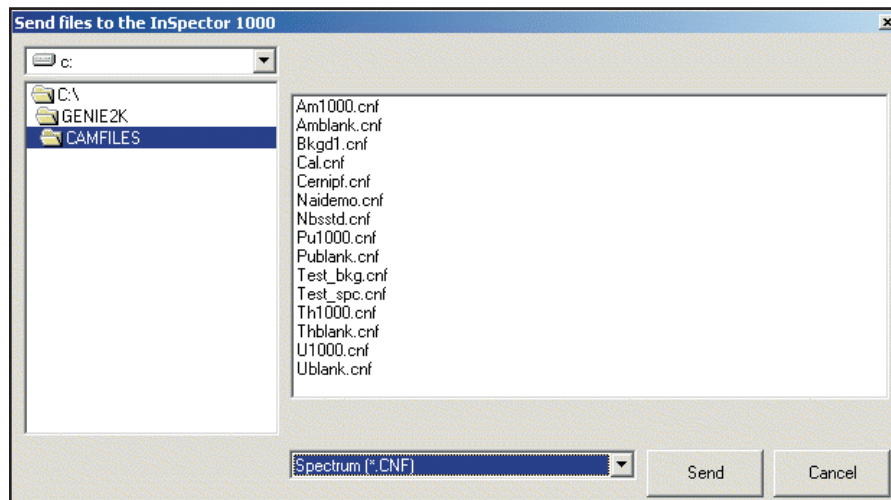

Figure 74 The Send Files List
2. The Send dialog in Figure 74 defaults to spectrum (CNF) files. This can be changed in the file type list box.